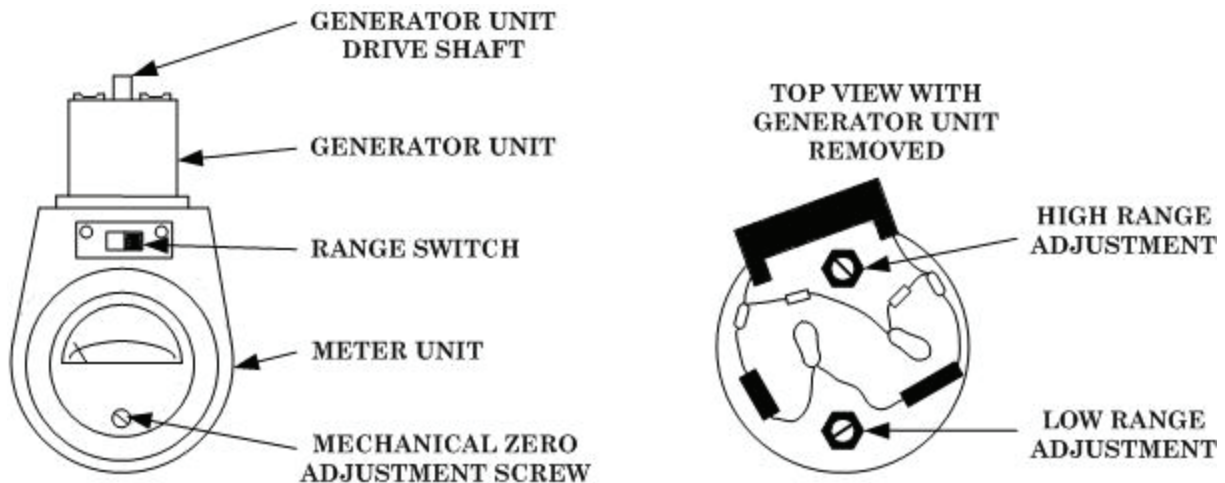

Figure 1. Electric tachometer - generator.
(1) Adjust tachometer calibrator display for a 2500 RPM indication.
(2) Adjust **LOW RANGE ADJUSTMENT** (fig. 1) for 2500 RPM on TI (R).
(3) Set TI **RANGE** switch to **HI**.
(4) Adjust tachometer calibrator display for a 5000 RPM indication.
(5) Adjust **HIGH RANGE ADJUSTMENT** (fig. 1) for 5000 RPM on TI (R).
(6) Repeat **8 a** above.